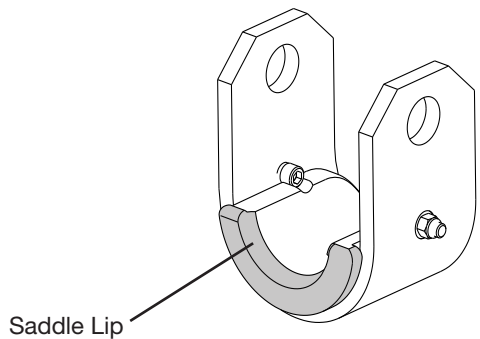

Figure 14
5. Pin the matching saddle to the front of the shoe with the saddle lip facing away from the bender forks (Fig. 14).